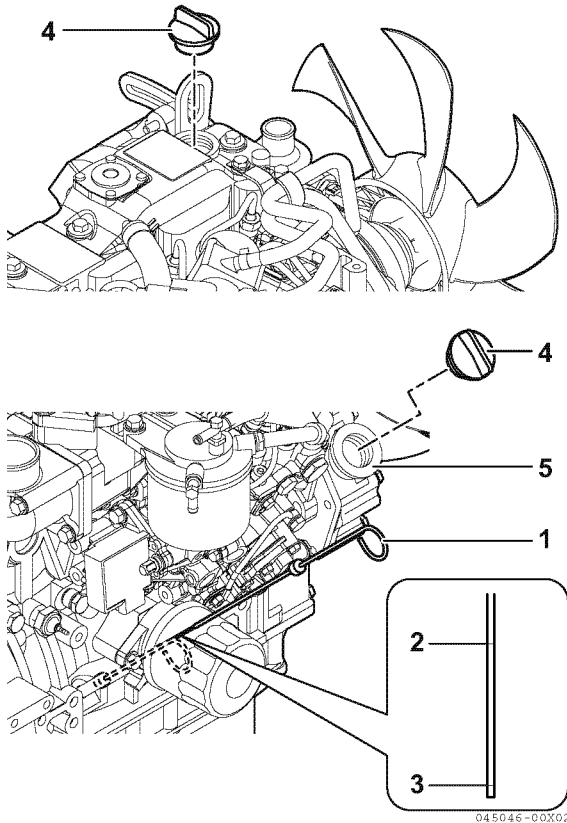

Figure 4-5
2. Remove the dipstick (1, **Figure 4-5**) and wipe it with clean cloth.
4. Remove the dipstick. The oil level should be between the upper (2, **Figure 4-5**) and lower (3, **Figure 4-5**) lines on the dipstick.
2. Remove the oil cap (4, **Figure 4-5**).
3. Add the indicated amount of engine oil at the top or the side engine oil filler port (5, **Figure 4-5**).
6. Reinstall the oil cap (4, **Figure 4-5**) and hand-tighten. Over-tightening may damage the cap.